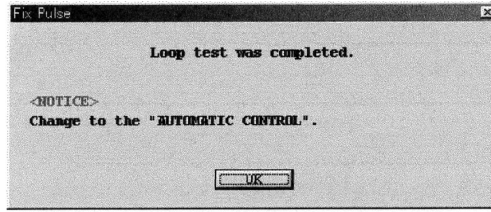

Fig.87
- ⑤ In response to clicking on "Stop" button, a message box like the one shown in Fig. 87 appears. Click on "OK" button.